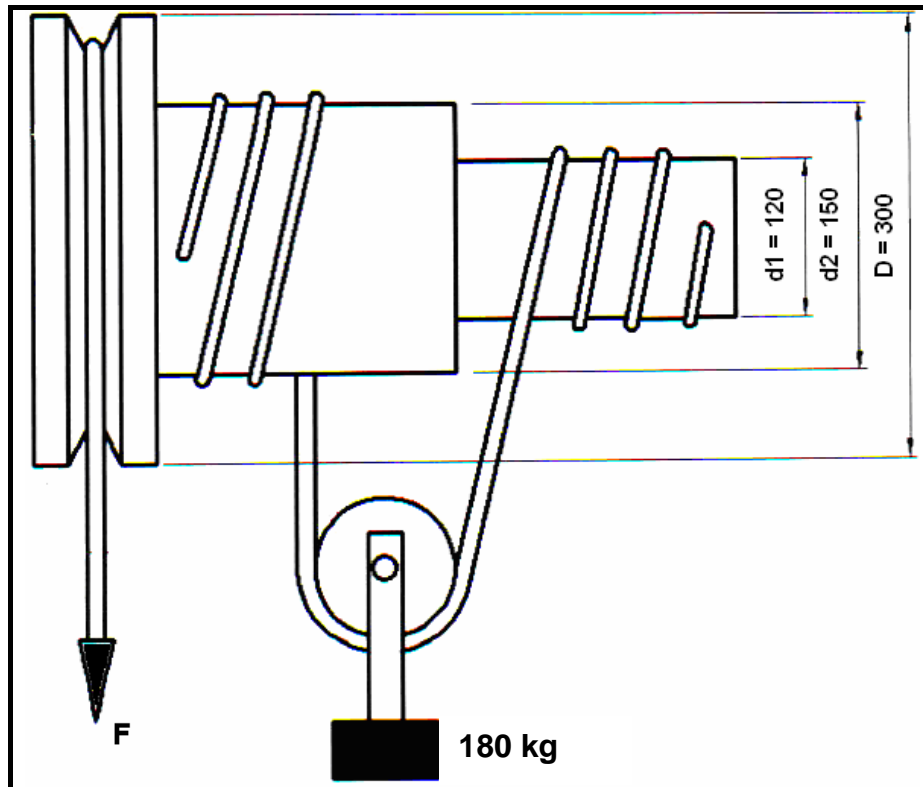

FIGURE 2.5
- 2.5 Study FIGURE 2.5 below. A differential wheel and axle lifting machine is used to lift an engine with a mass of 180 kg. The diameter of the wheel **D** is 300 mm and the diameters of the axles **d2** and **d1** are 150 mm and 120 mm respectively. The effort **F**, needed for this load, is 100 N.